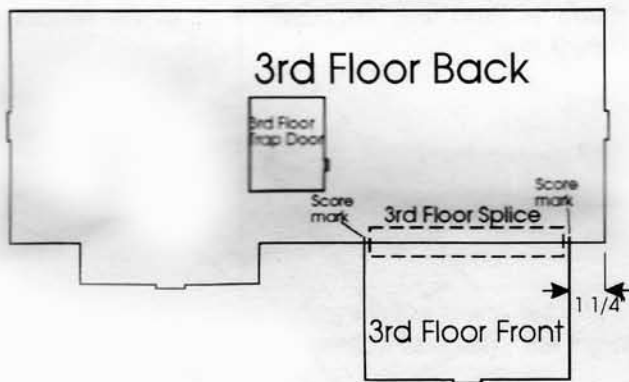

Figure 18
5. Splice 3rd Floor- Follow the same procedure as the 2nd Floor. Line up the 3rd Floor Front to the marks on the front edge of the 3rd Floor Back. Save the rectangular piece that comes out of the stairwell opening, it can be used as a trap door. See Figure 18.